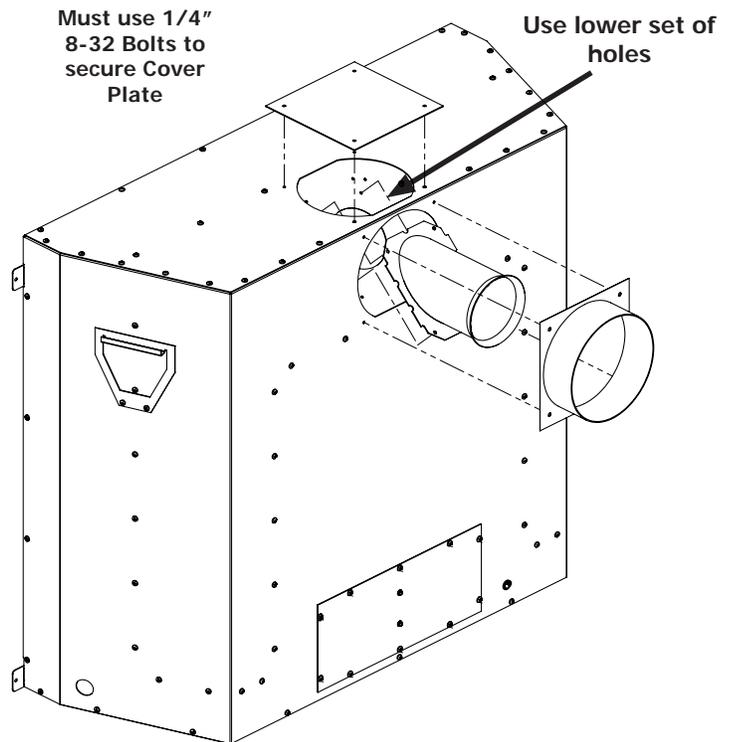

Figure 16. Vent Conversion - Step 2
Step 2: Switch the removed parts around as shown in Figure 16 and re-install all 12 screws. Be sure not to damage any gaskets - If damage occurs fully remove the gasket and use high temp silicone as a replacement.